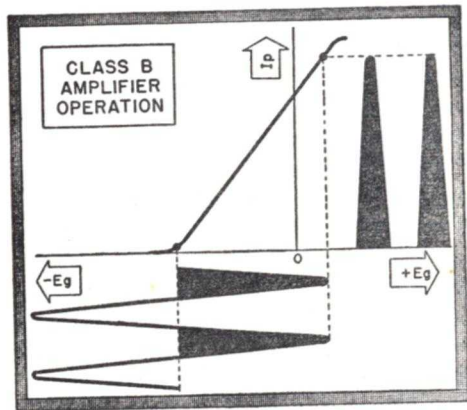
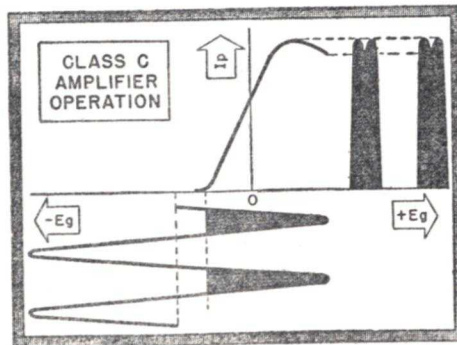

FIG. 6. In class B amplifiers, only half of the incoming signal is effective in producing plate current pulses.
FIG. 7. In class C operation, even less than half of the incoming signal is used to produce plate current pulses.
► For some purposes, we do not want the plate current variations to be exactly like the entire signal applied to the grid circuit. We may, for example, apply a bias sufficient to cut off plate current, as shown in Fig. 6. Now when we apply a signal, we will get half-wave pulses in the plate circuit—in other words, very little (if any) plate current will flow until the positive signal alternations overcome the bias. This is called class B operation and is very necessary for certain purposes.
Fig. 7. Only the positive tips of the grid signal can cause plate current to flow. This is called class C operation. ► If we allow the grid signal to swing over into the positive region (Figs. 6 and 7), class B and class C amplifiers become far more efficient than class A (that is, they produce more output for the same plate supply power). However, the resulting distortion generally limits such operation to special stages where the distortion can be overcome or does not matter. We shall explain these uses in later lessons.